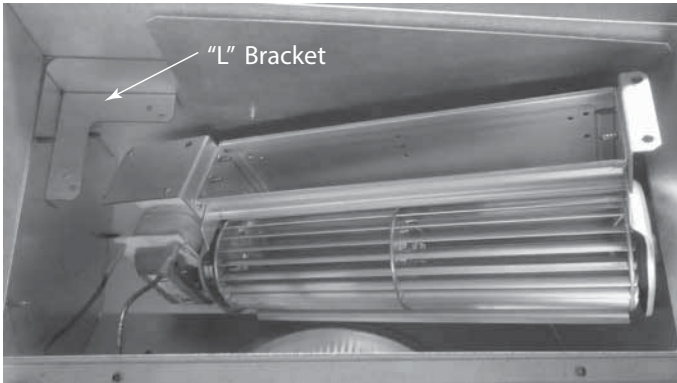

Figure 3.29
- Insert fan into the fan housing starting with motor end first. Slip it below the “L” mounting bracket on the left side allowing the right side to drop in. See Figure 3.29.